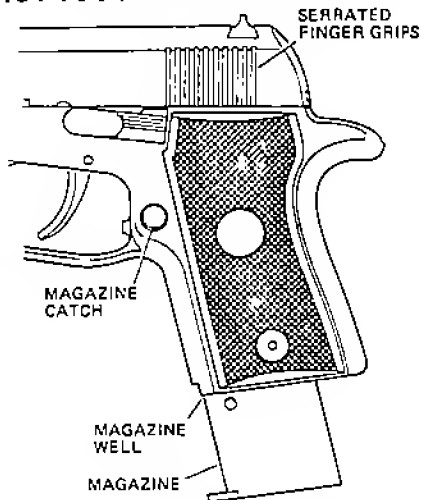

FIGURE 4—MAGAZINE PARTIALLY INSERTED
2. Remove magazine from pistol. Place your hand under magazine to prevent it from falling. Press magazine catch (located on left of pistol behind trigger guard) to drop the magazine out of the magazine well (See Figure 4).